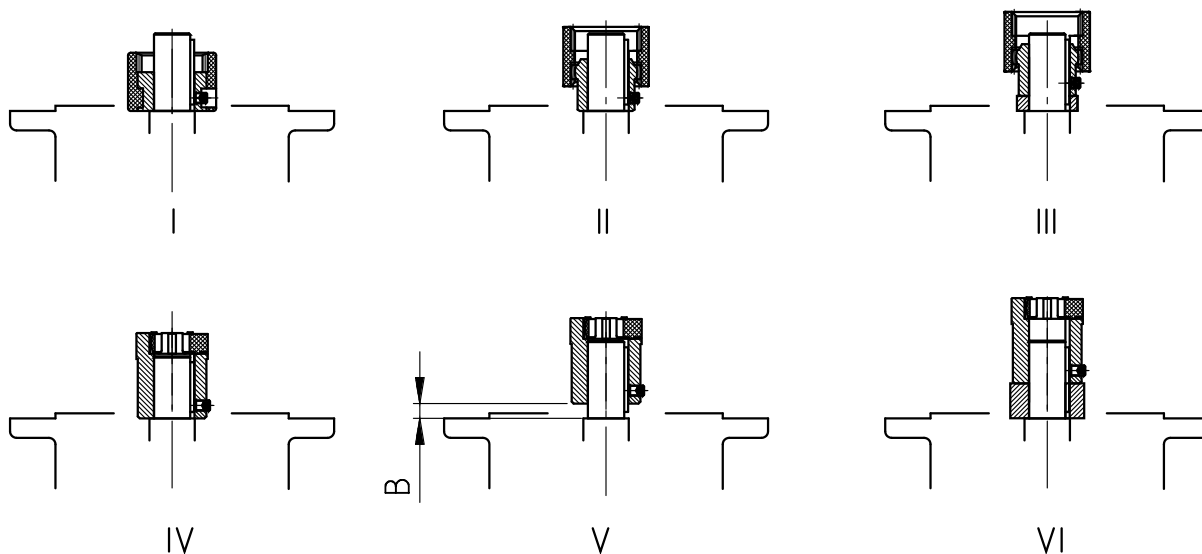

Figure 16: Fitting the coupling onto the motor shaft - various types of coupling
3. Position the half-coupling onto the motor shaft so that the motor parallel key engages into the groove of the half-coupling. Tighten the half-coupling in accordance with the motor manufacturer's instructions. With standard helical gear units, observe dimension B between the half-coupling and the collar (see "Figure 16"). Adjust the coupling in accordance with the specifications indicated on the adhesive plate for certain **NEMA adapters**.
8. Attach the motor to the adapter. Also attach the enclosed ring gear or the enclosed gear sleeve (see **Figure 16: Fitting the coupling onto the motor shaft - various types of coupling**). For the AN360TC and AN400TC adapters, attach the adapter flange to the motor first, and screw the motor onto the adapter.